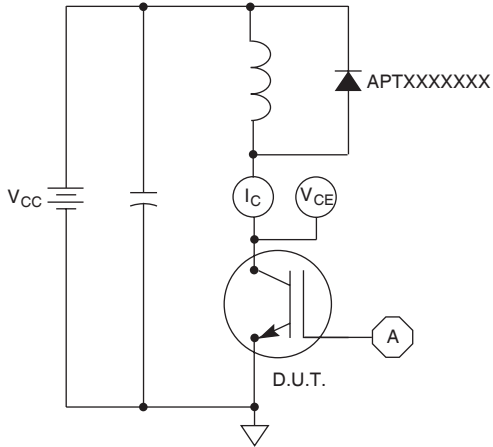

Figure 21, Inductive Switching Test Circuit
- ⑤  $E_{on2}$  is the clamped inductive turn-on energy measured in accordance with JEDEC standard JESD24-1. (See Figures 21, 22.)
- ⑥  $E_{off}$  is the clamped inductive turn-off energy measured in accordance with JEDEC standard JESD24-1. (See Figures 21, 23.)